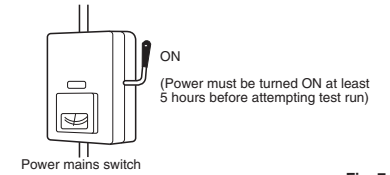

Fig. 7-1
- The power has been supplied to the unit for at least 5 hours before starting the compressor. The bottom of the compressor should be warm to the touch and the crankcase heater around the feet of the compressor should be hot to the touch. (Fig. 7-1)